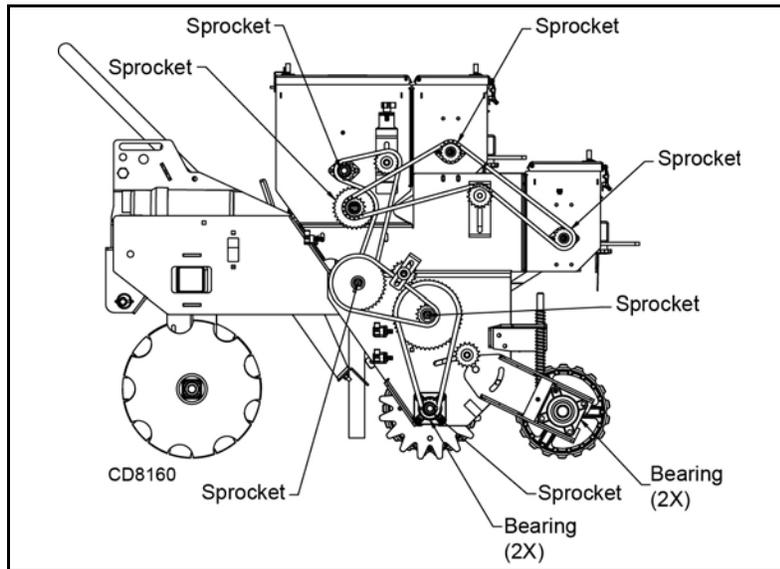

Figure 22. Lubrication Points
___ Check all lubrication points and grease as instructed in Lubrication Information, Figure 22.
1. Lubricate all bearing housings every 8 hours. Bearing housings are located on each end of rollers as indicated by grease fitting. See Figure 22.